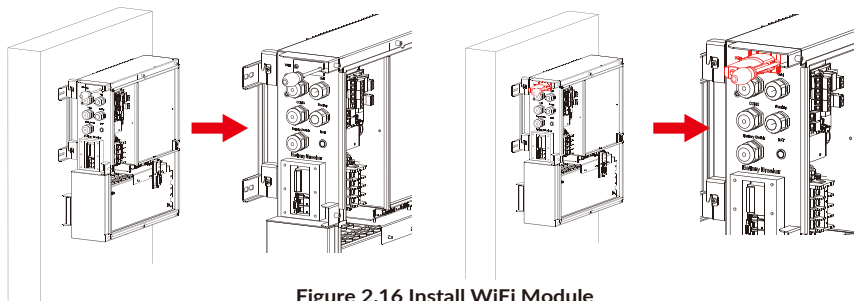

Figure 2.16 Install WiFi Module
Step 11 Install WiFi module, as shown in Figure 2.16.
NOTE: If using WiFi module, open the cover plate of the side WiFi module, insert the WiFi module into the terminal port and then fix it with screws by using T20 double offset ring spanner, as shown in Figure 2.16. The suggested torque is 1.6 N.m±10%. If you will install external M4856-P for expansion, please go to section 2.4.4 directly.